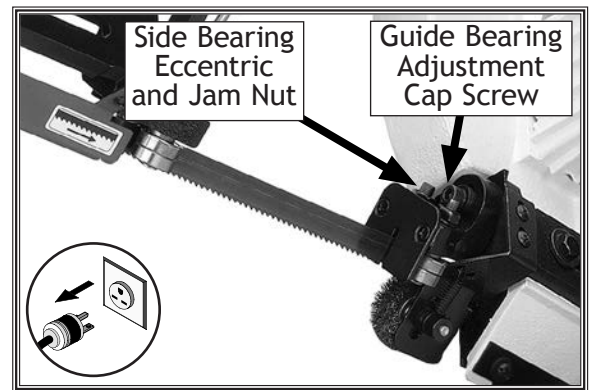

Figure 34. Blade guide location.
7. Using a 6mm wrench, rotate the side bearing eccentrics (**Figure 34**) until the bearings hold the blade perpendicular to the table surface and have a bearing-to-blade clearance of 0.000" to 0.001". The bearings must not pinch the blade.